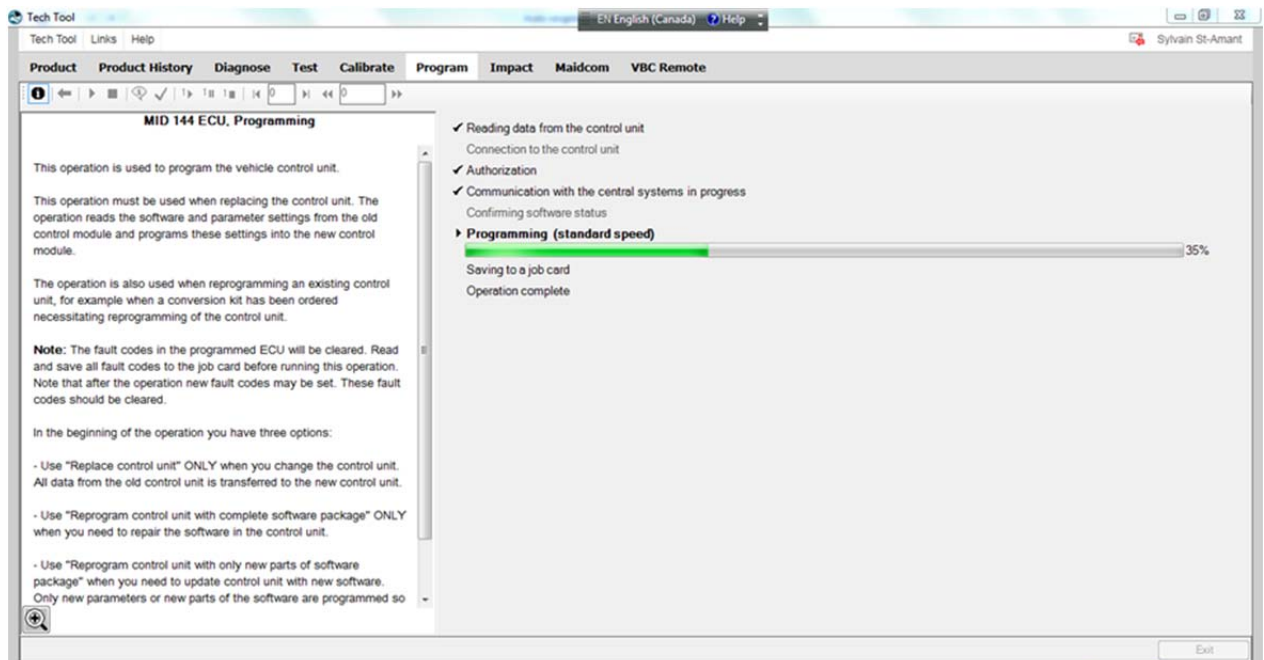
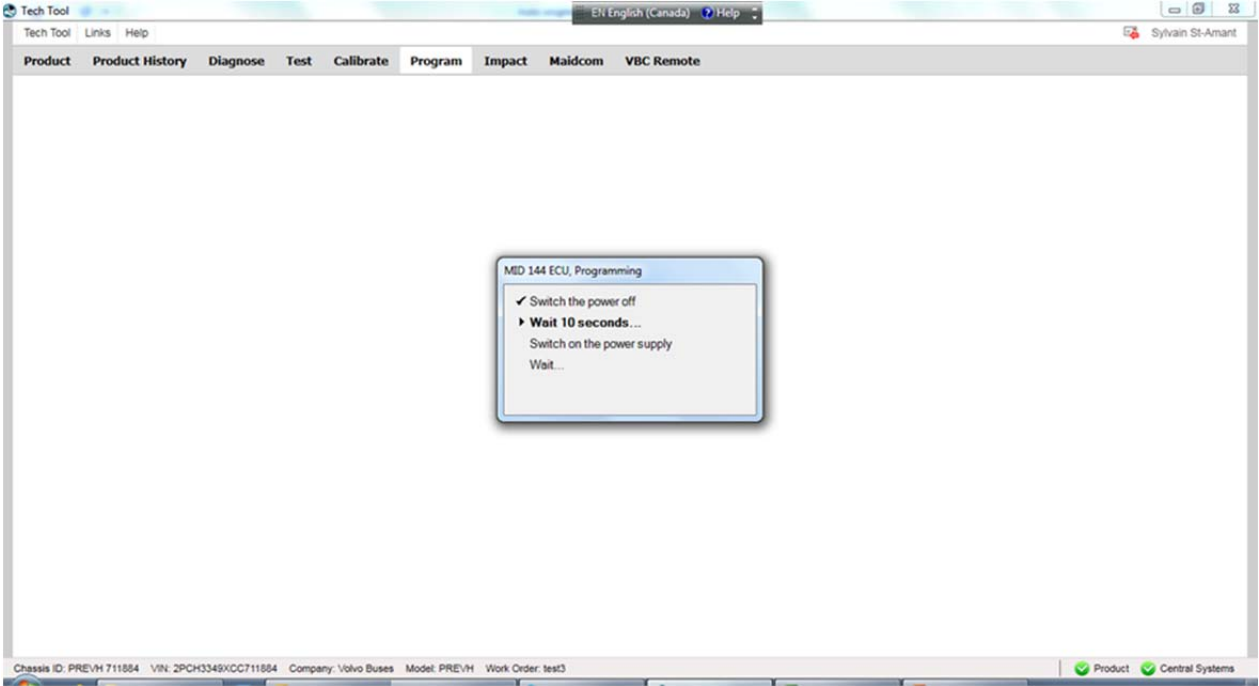

FIGURE 26
FIGURE 27
8. Programming is in progress (FIGURE 26 & FIGURE 27).